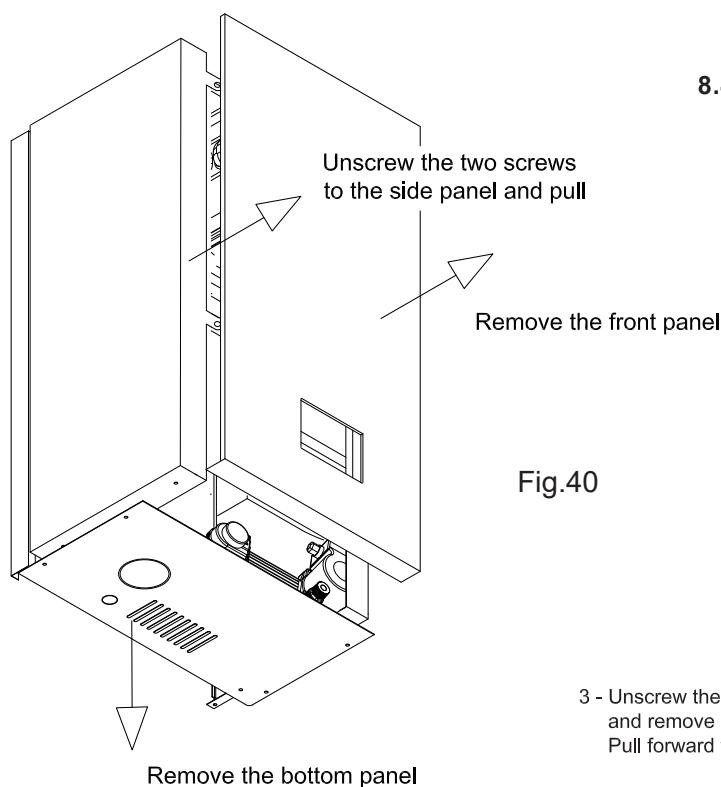

Fig.40
8.3 TO REMOVE LEFT AND RIGHT PANELS (Fig. 40)